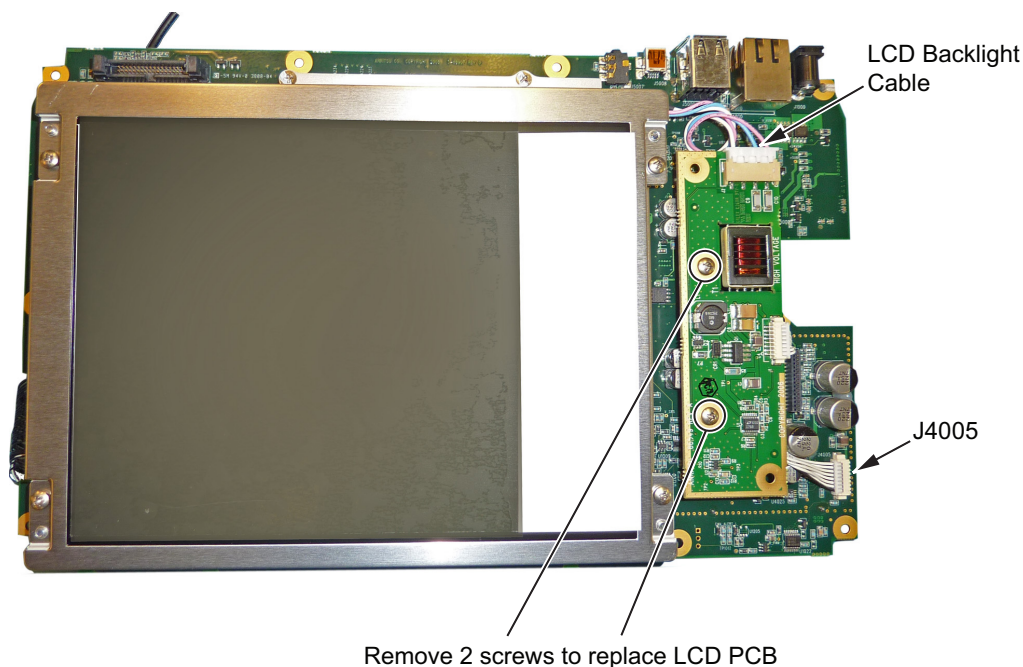

Figure 7-8. Replacing the LCD
4. Use a Phillips screw driver to remove the two screws securing the LCD backlight PCB to the Main PCB assembly (Figure 7-8).